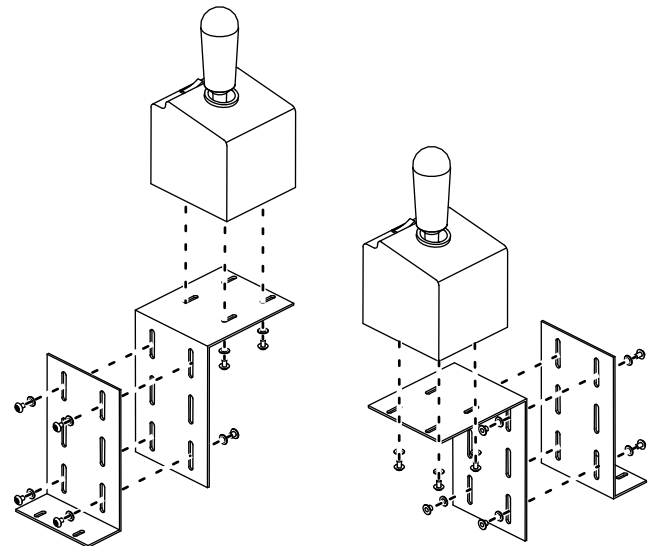

Figure 24
1. Determine the best location and configuration for your controller mounting-bracket; refer to Figure 24 for possible configurations.
2. Secure the mounting brackets to the vehicle and joystick controller using 8 to 10 bolts (#8), washers (#10), and nuts (#8) as shown in Figure 24.